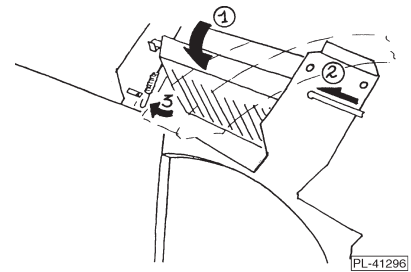

Fig. 19
6. Reassemble the Pressing Plate (Fig. 19):